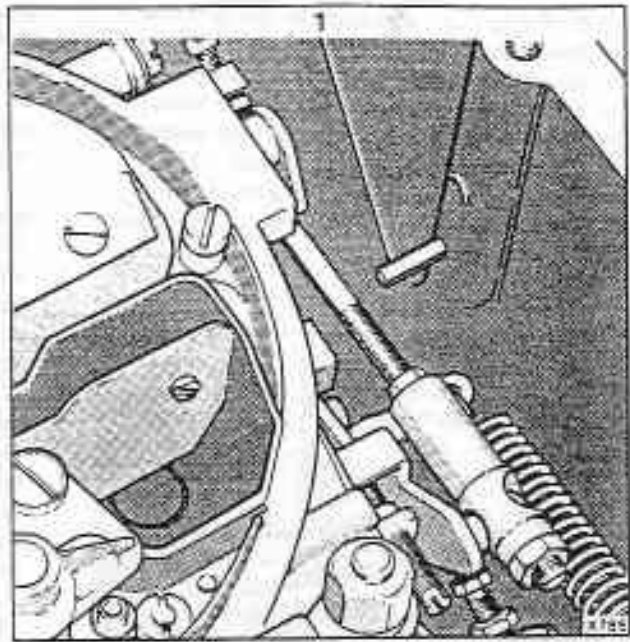

Fig. K11-32 Checking the boost enrichment system
1. Disconnect and blank the switch pressure signal hose. Connect a pressurized air supply and a 0 to 0,34 bar (0 to 5 lbf/in²) gauge to the boost enrichment pressure tapping either inside the air chest (see fig. K11-32) or directly to the boost enrichment switch mounted on the left-hand side of the air chest.